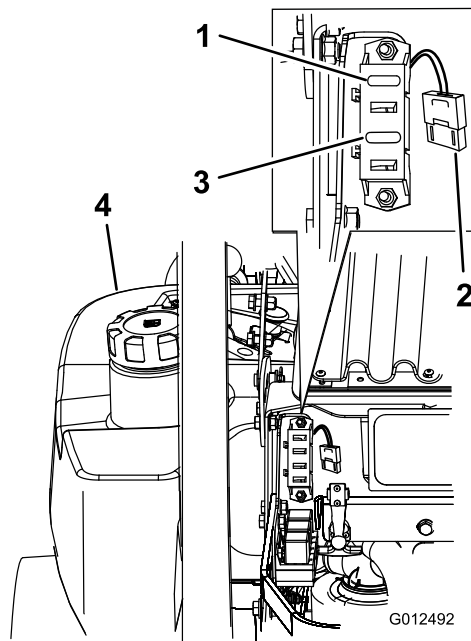

Figure 56
1. Unlatch the engine hood and raise the engine hood to gain access to fuse holder (Figure 56).
3. Install a new fuse (Figure 56).